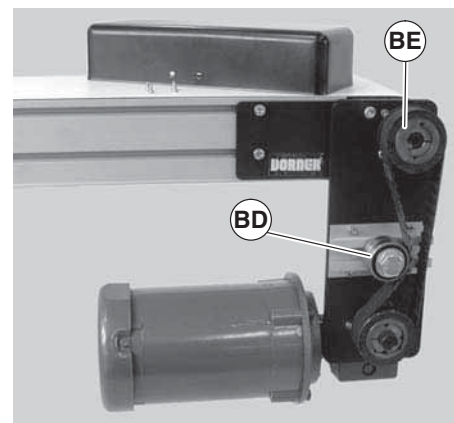
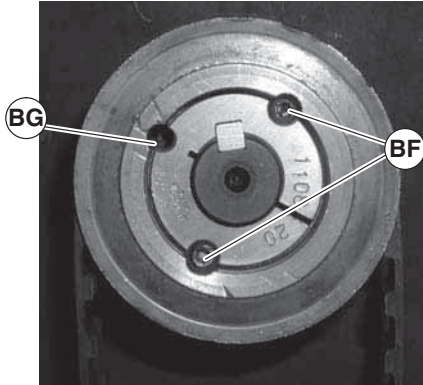

Figure 41
Figure 42
- Loosen tensioner (Figure 41, item BD).
- d. Remove taper-lock screws (Figure 42, item BF) on the driven pulley (Figure 41, item BE). Insert one (1) of taper lock screws (Figure 42, item BF) in remaining hole (BG). Tighten screw (BF) until pulley is loose. Remove pulley, taper hub assembly and timing belt.